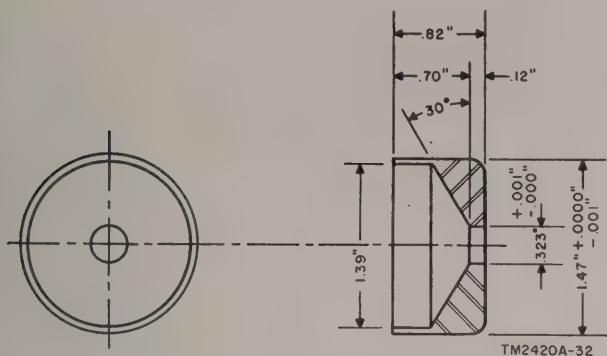

Figure 29. Magnet keeper.
ricate the tools and jigs as described in *a* through *d* below and figures 29 through 32.
a. Magnet Keeper (fig. 29).
- (1) Turn the magnet keeper from a piece of machine steel.
- (2) Figure 29 illustrates the completed magnet keeper and gives the dimensions. Be sure the dimensions are accurate because they are critical.
- (3) Check the magnet keeper to be sure that all burs and filings have been removed.